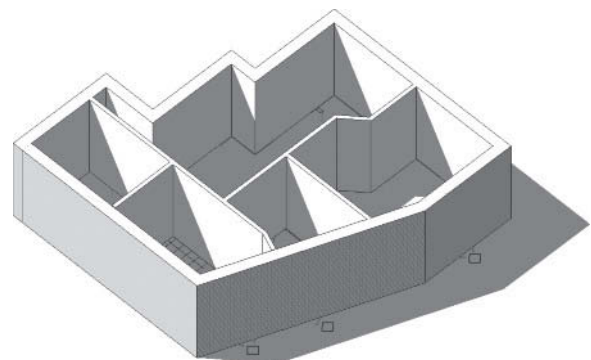

Figure 3-26
24. Again, select the **Default 3D View** button from the **View** tab, and place the model into 3D (see Figure 3-26).